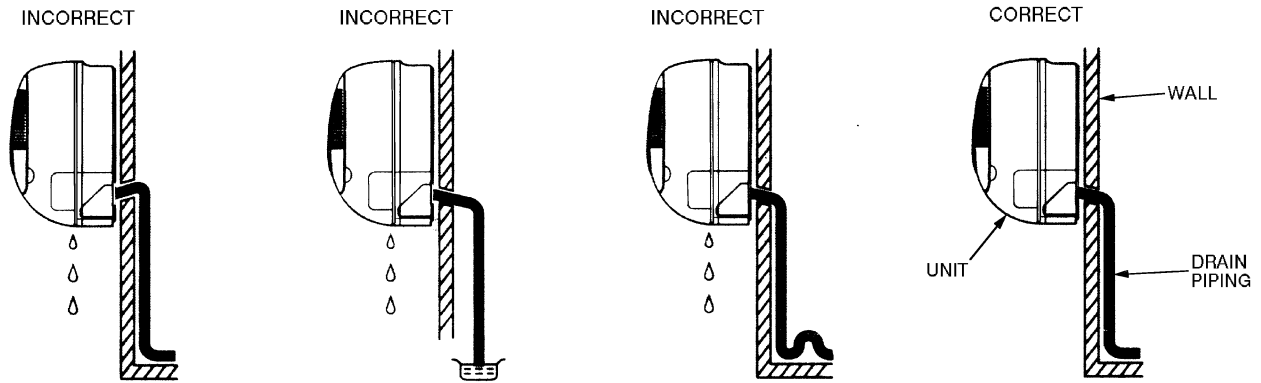

Fig. 12 — Drainage System (Rear Piping Shown)
2. To ensure regular flow of condensate water, the drain pipe should be pitched toward an open drain or sump at a downward slope of at least 1/4-in. per foot. Refer to Fig. 12.